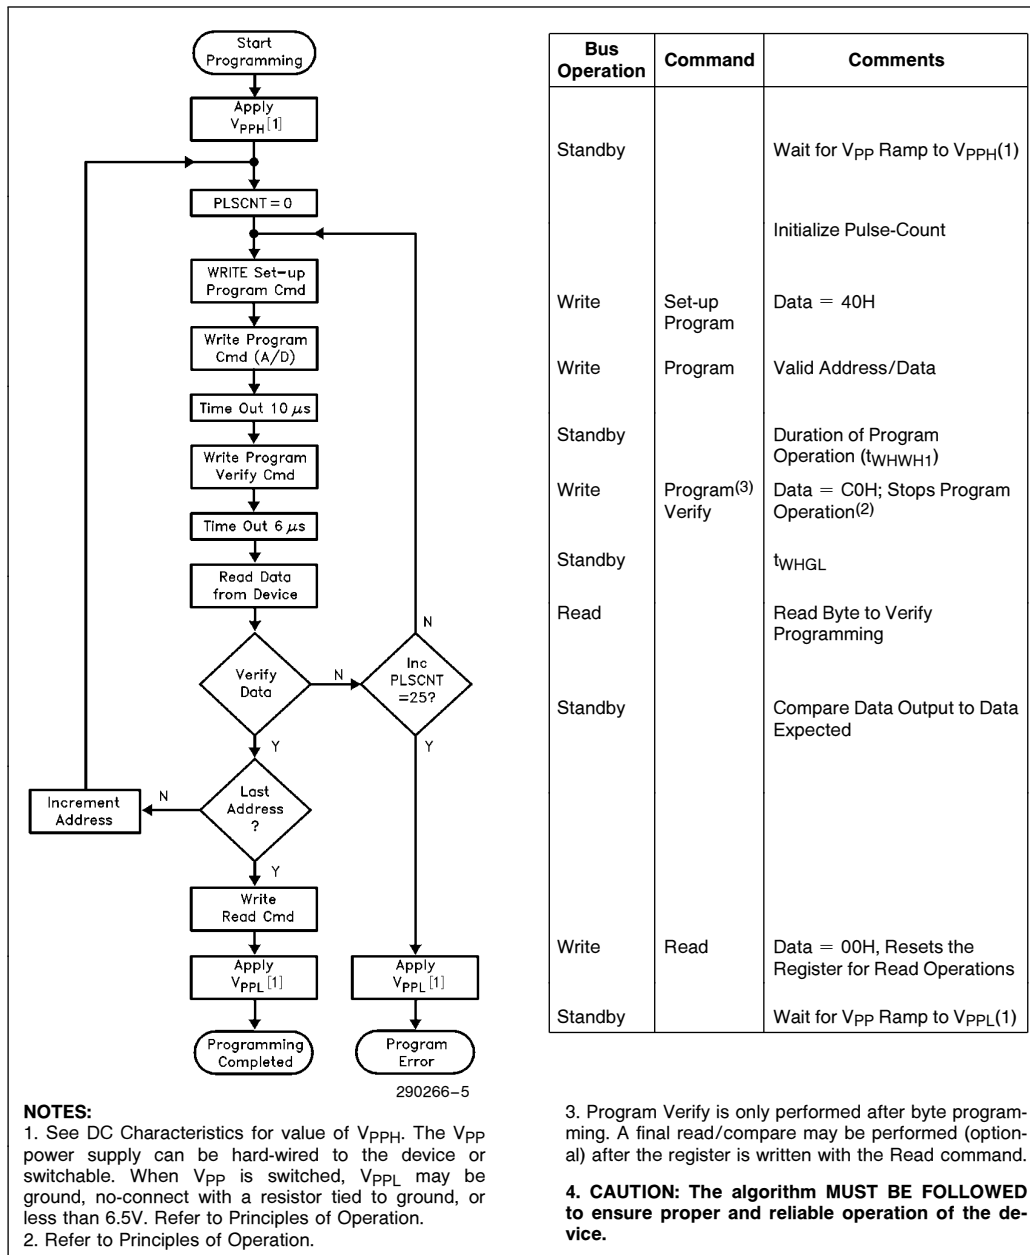

Figure 4. 28F010 Quick-Pulse Programming Algorithm
6. Figure 4 illustrates the Quick-Pulse Programming Algorithm.
The 28F010 applies an internally-generated margin voltage to the byte. A microprocessor read cycle outputs the data. A successful comparison between the programmed byte and true data means that the byte is successfully programmed. Programming then proceeds to the next desired byte location. Figure 4, the 28F010 Quick-Pulse Programming algorithm, illustrates how commands are combined with bus operations to perform byte programming. Refer to A.C. Programming Characteristics and Waveforms for specific timing parameters.
The Quick-Pulse Programming algorithm uses programming operations of 10  $\mu$ s duration. Each operation is followed by a byte verification to determine when the addressed byte has been successfully programmed. The algorithm allows for up to 25 programming operations per byte, although most bytes verify on the first or second operation. The entire sequence of programming and byte verification is performed with  $V_{PP}$  at high voltage. Figure 4 illustrates the Quick-Pulse Programming algorithm.